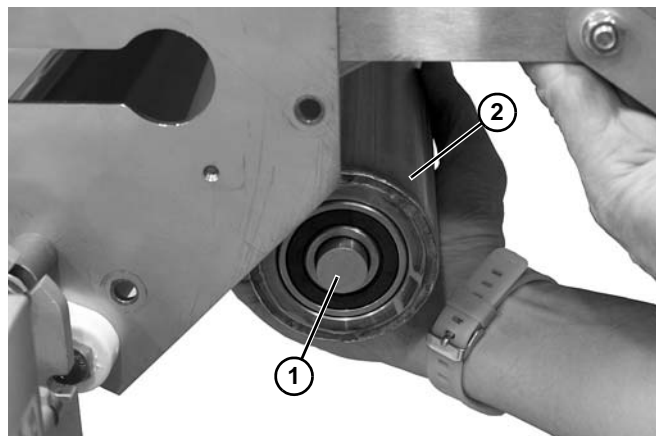

Figure 59
15. Slide shaft (Figure 59, item 1) into the tensioner pulley (Figure 59, item 2). Remove the tensioner pulley.